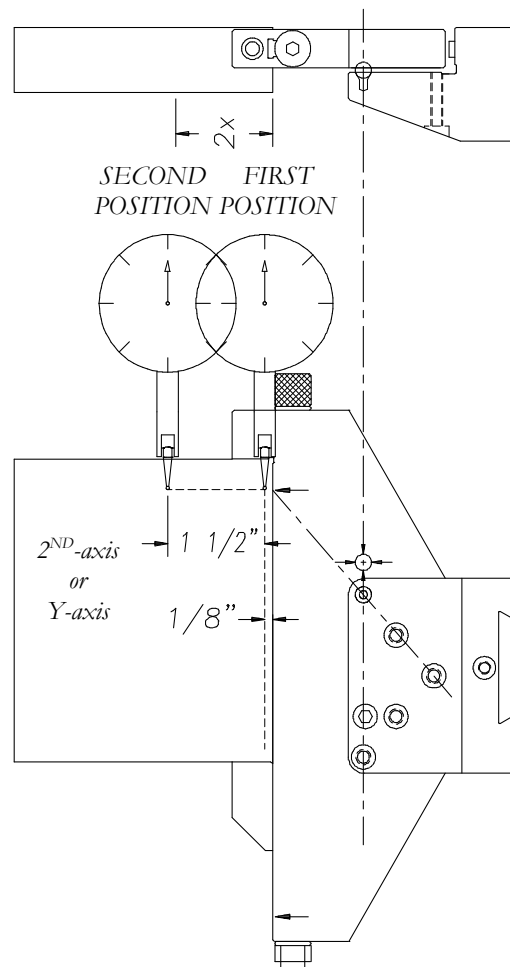

Figure 3
STEP 10. (A). Place the indicator ball anywhere along the workpiece within 1/8 inch from the vise bed as shown in Fig. 3. **(B).** Zero the indicator. **(C).** Move the indicator ball outward, perpendicular to the vise bed, in the second-axis to a distance of 1 and 1/2 inches (use a steel ruler). **(D).** Take a reading on the dial indicator and adjust the #2 jackscrew until the